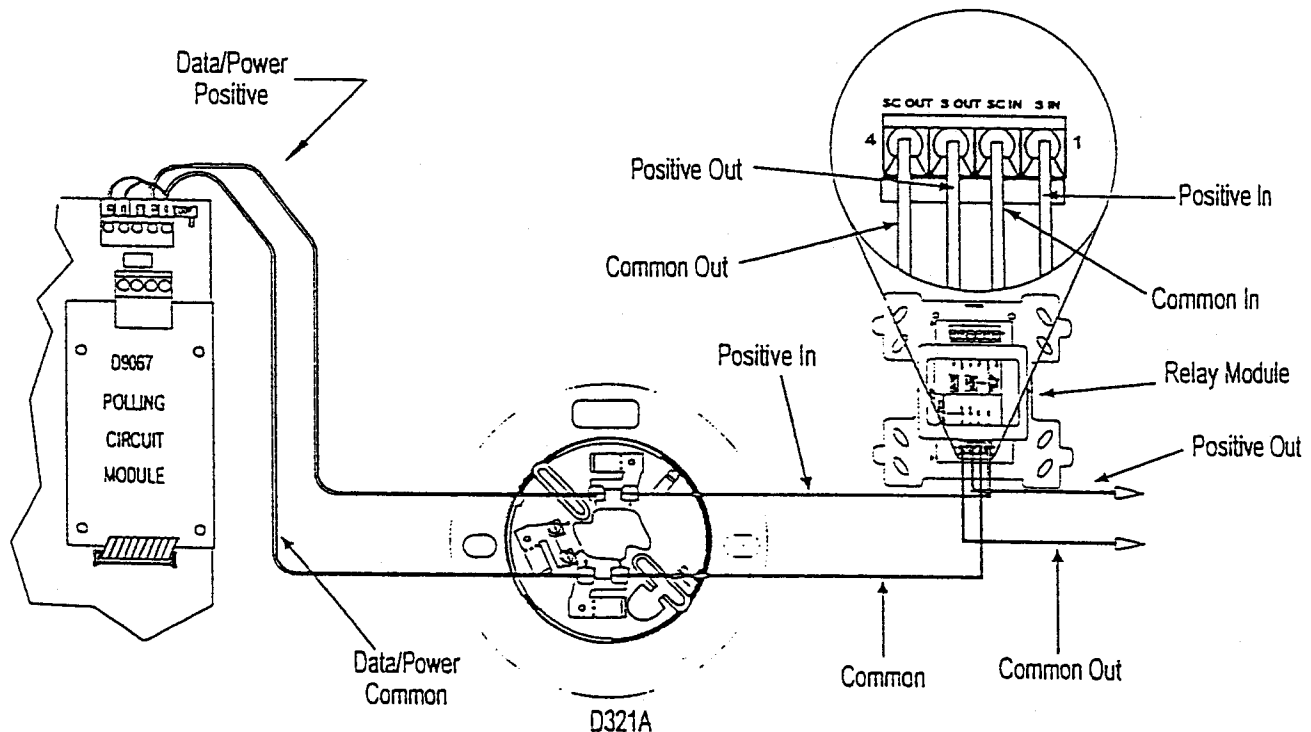

Figure 3: NAC Module-to-Circuit Wiring
- Wire the D328A in the polling circuit by connecting the Data/Power Positive (+) and Data/Power Common (-) terminals as shown in Figure 3.